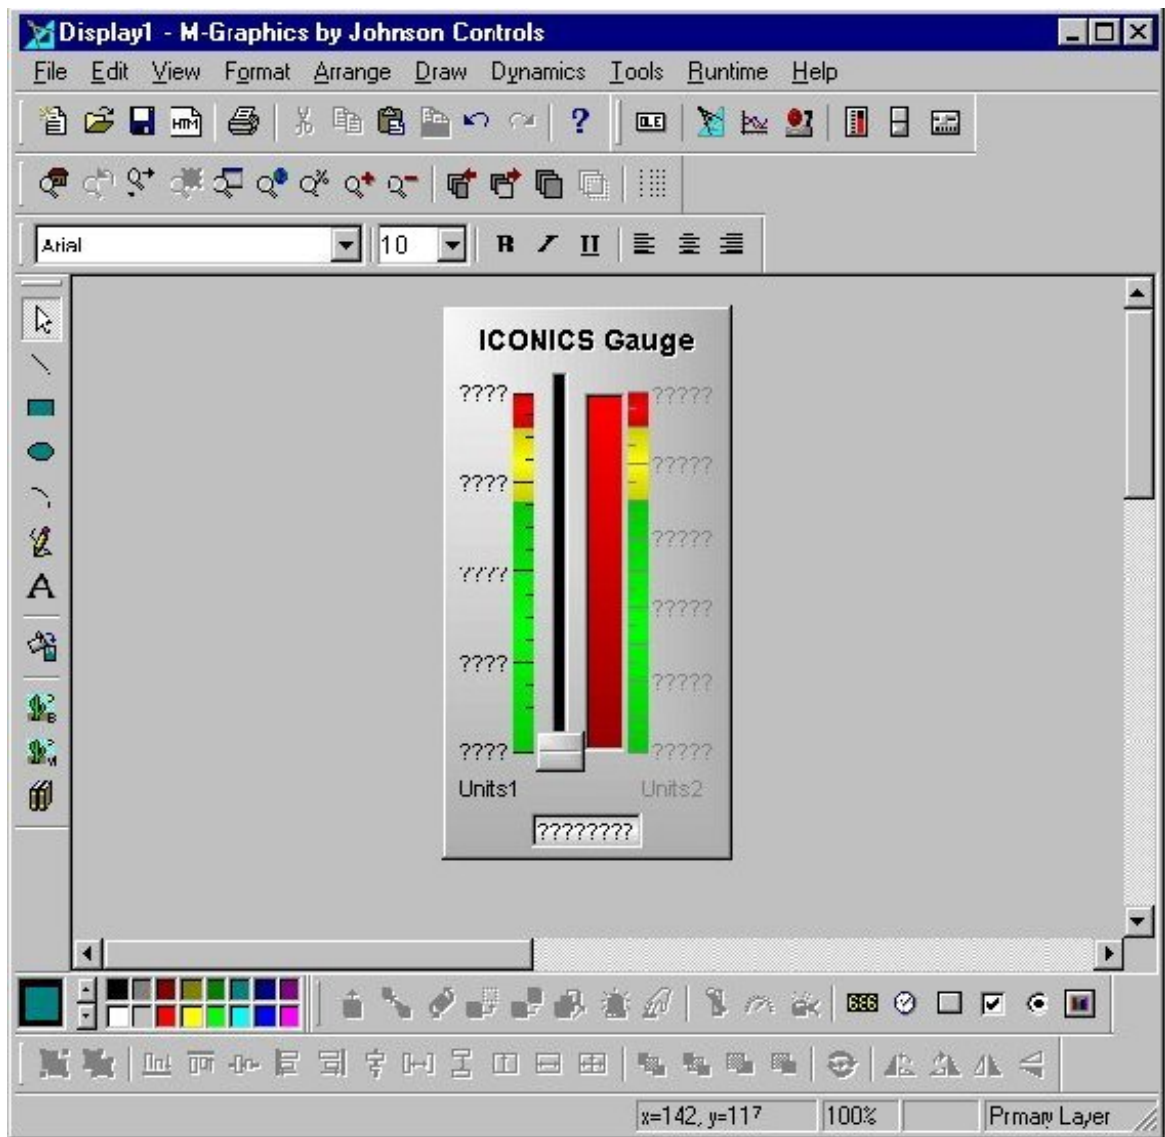

Figure 15-3: GWXGauge ActiveX in M-Graphics Display
3. Click OK. A GWXGauge ActiveX control is added to the display (Figure 15-3).